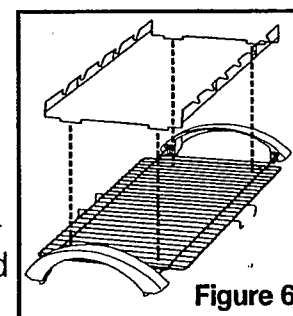

Figure 6
5. If you will be using the Skewer Rack to grill skewered meat, place Skewer Rack onto Cooking Grid as shown in Figure 6.